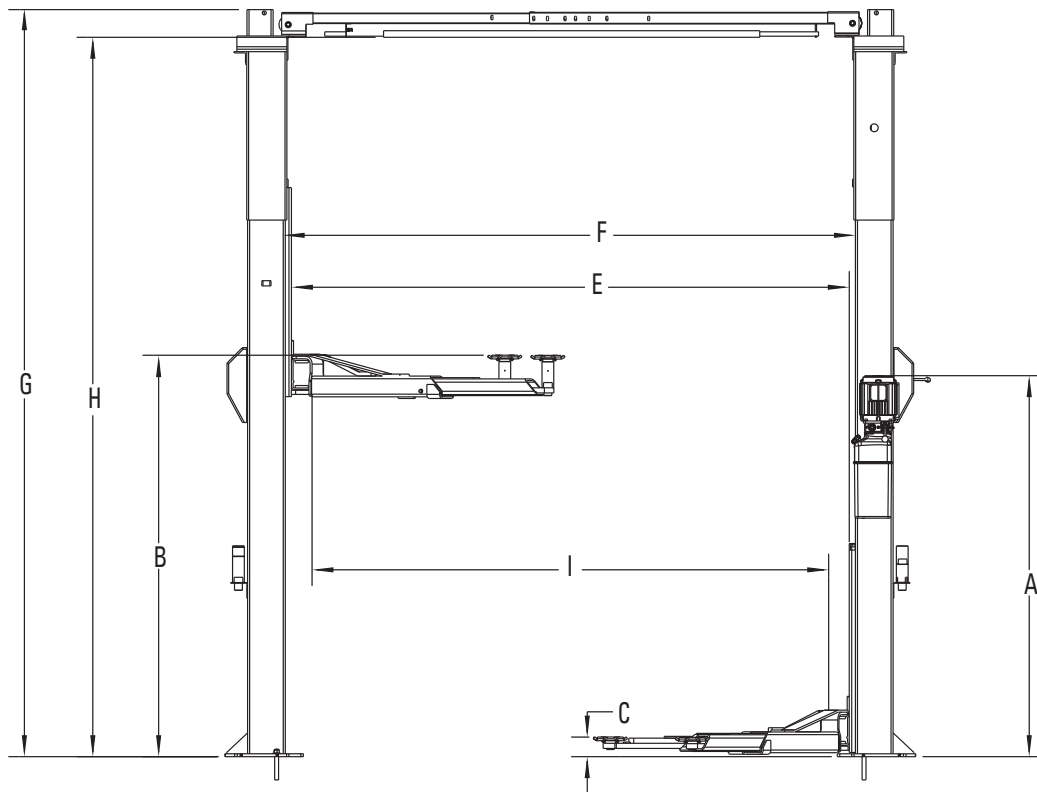
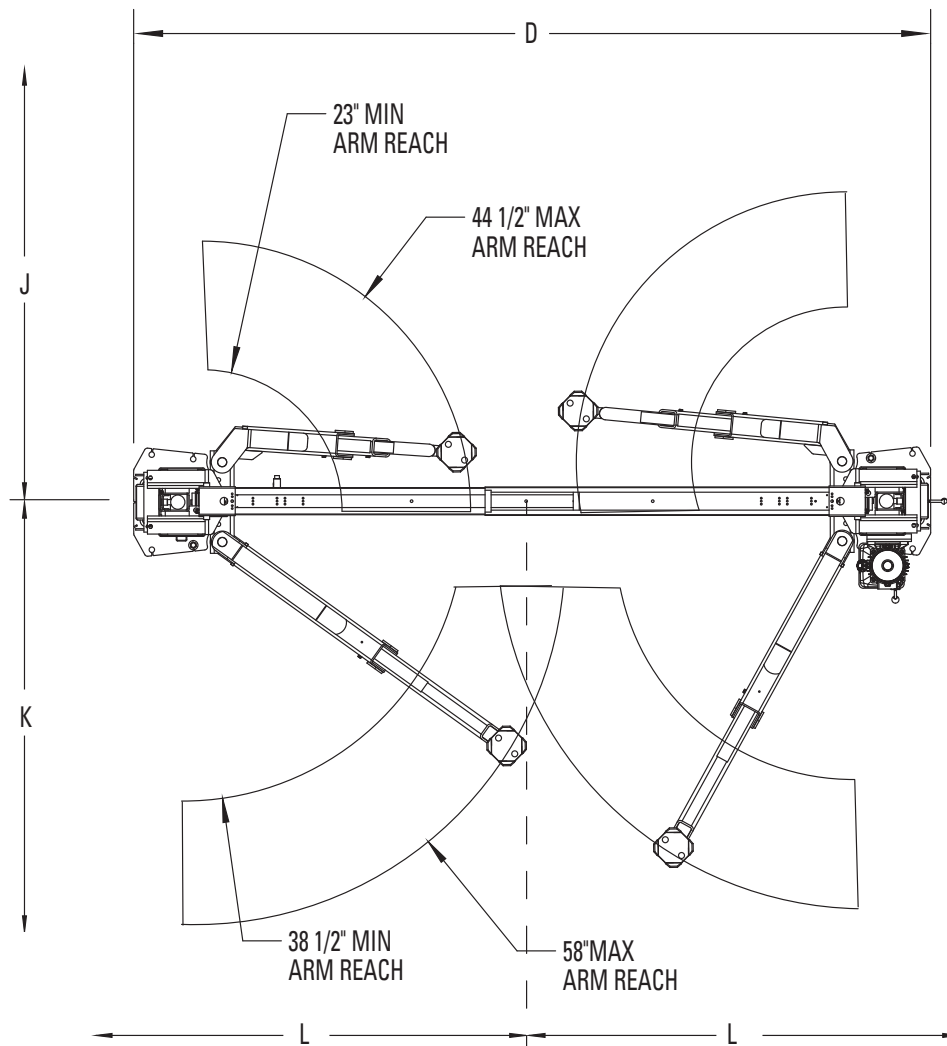

Fig. 1a
Fig. 1b
1. Lift Location: Use architects plan when available to locate lift. Fig. 1a & Fig. 1b shows dimensions of a typical bay layout.
6. Lift Setting: Position columns in bay using dimensions shown in Fig. 1a & Fig. 1b. Place column with power unit mounting bracket on vehicle passenger side of lift. Both column base plate backs must be square on center line of lift. Notches are cut into each base plate to indicate center line of lift. Use appropriate equipment to raise carriage to first latch position. Be sure locking latch is securely engaged.